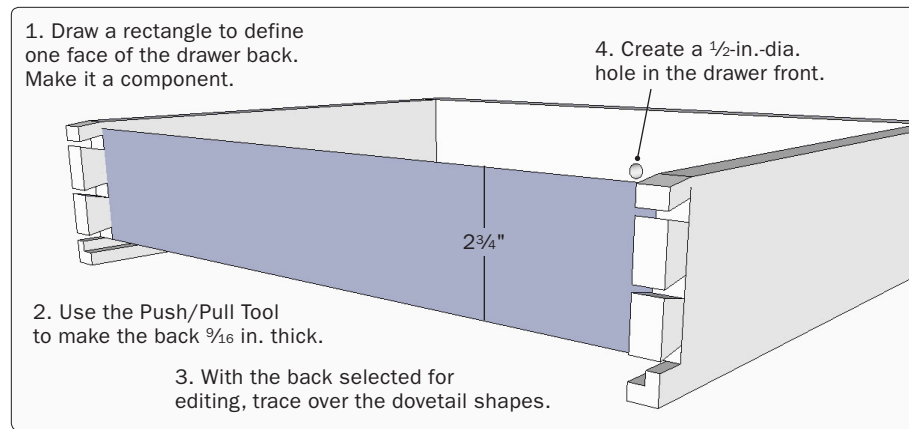
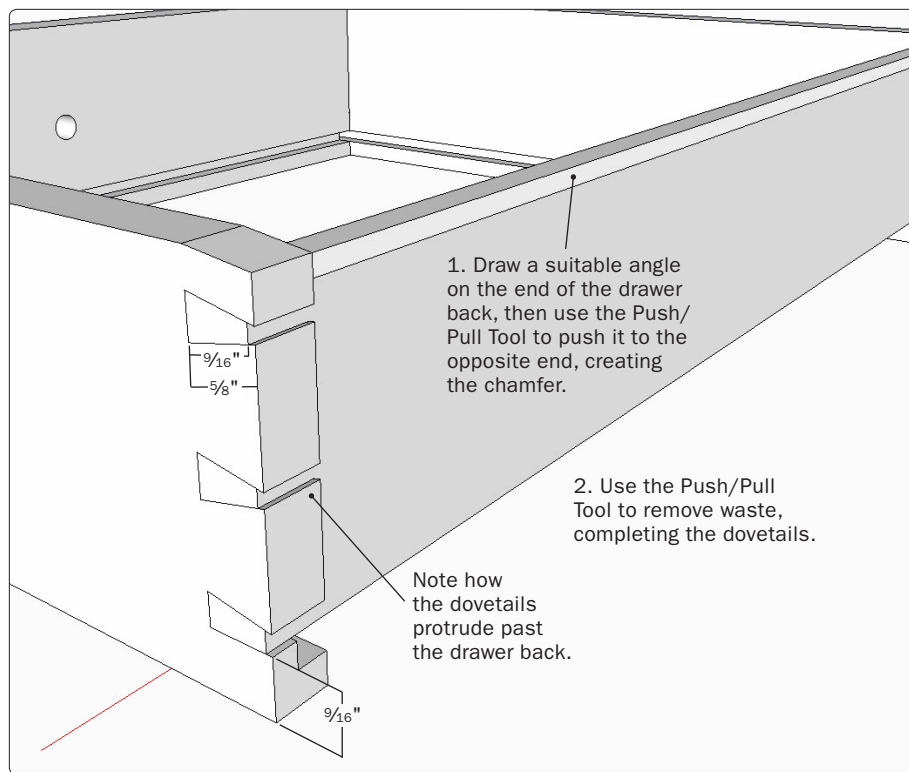

Figure 65. Create the drawer back.
Figure 66. Shape the dovetails and a chamfer to complete the drawer back.
Step 53 Create the drawer back the same way you did the front. The bottom edge of the back piece aligns with the top of the groove in the sides. Use the Line Tool to draw the rectangle shown in Figure 65. Make it a component. It should stretch from the outside face of one side component to the outside face of the other side. Use the Push/Pull Tool to give the drawer-back component the proper thickness. With the back component drawn and selected, trace the dovetail shape on one end, and then use the Push/Pull Tool to finish the joint, as shown in Figure 66.